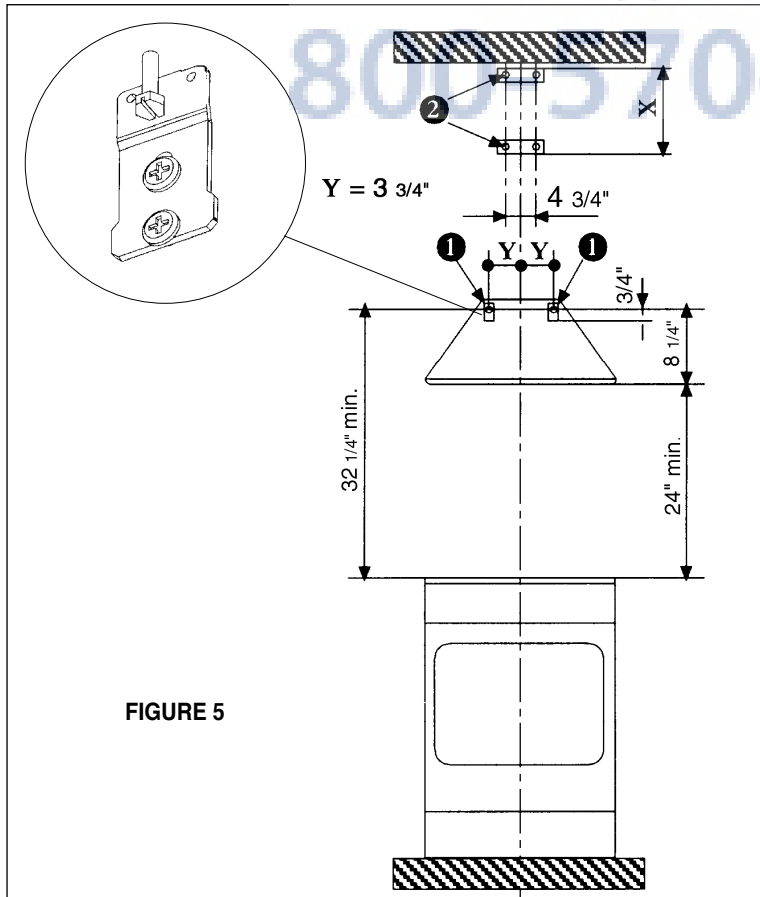

FIGURE 5
3. The canopy attaches to the wall by two mounting brackets (**1 in FIGURE 5**). The canopy of the rangehood hangs on the two brackets which must be mounted with the flanges on the top of the bracket and pointing away from the wall. Before installing the brackets, the adjustment screws must be installed into the bottom of the bracket. These two screws are provided in the hardware package and have hexagon heads with a slot for a flat blade screwdriver. The dimensions illustrate mounting the canopy 24" above the cooking surface.
4. The chimney mounts by two brackets (**2 in FIGURE 5**). Note the position of the brackets. The top bracket should be installed about 1/8" away from the ceiling. The bottom bracket must be installed at the bottom point of the upper chimney sleeve.